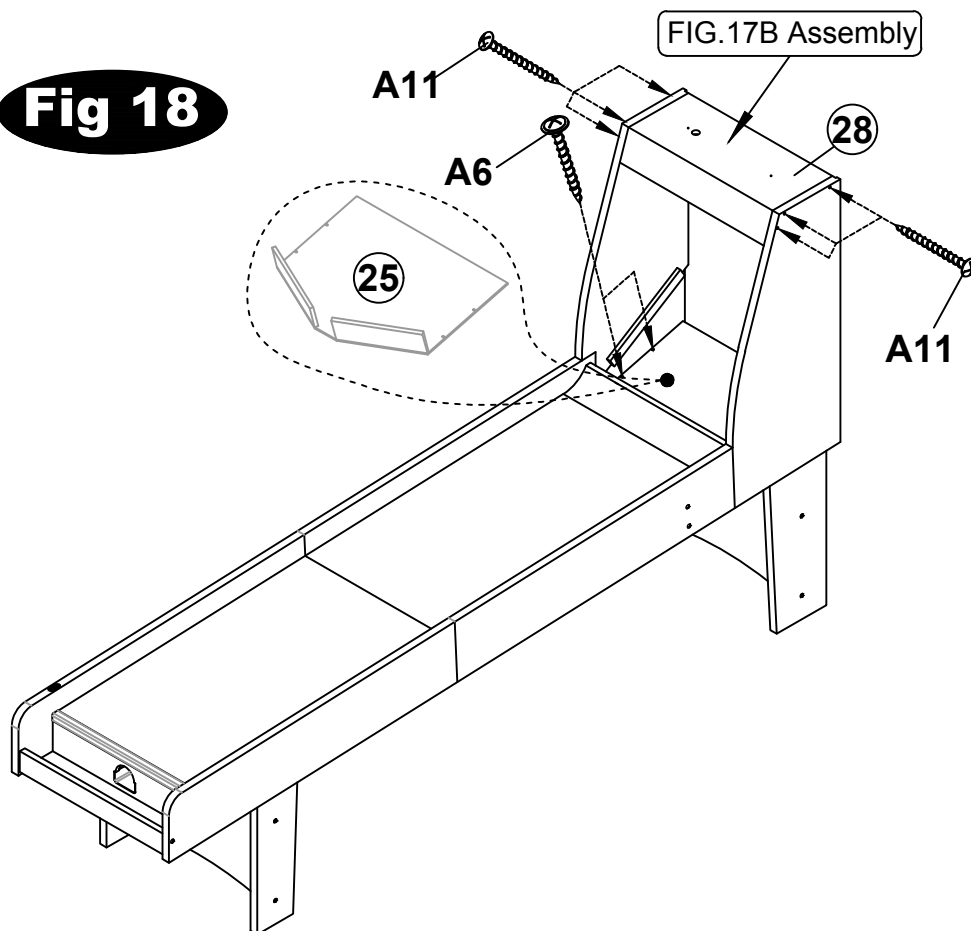

Fig 18
31. Attach the Ball Guide Plate(#25) to the top of Legs-B(#22 & #23) using four Screws(A6) as shown FIG.18.